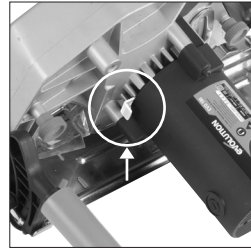

Fig. 2
- Lock the machine arbor by engaging the arbor lock. **(Fig. 2)**